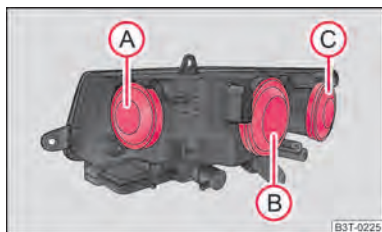

Fig. 203 Front headlight: Fitting position of the bulbs
Positions of the light bulbs in the front headlight ⇒ fig. 203.
- Remove the protective cap **A** ⇒ fig. 203.
- Remove the protective cap (B) ⇒ fig. 203.